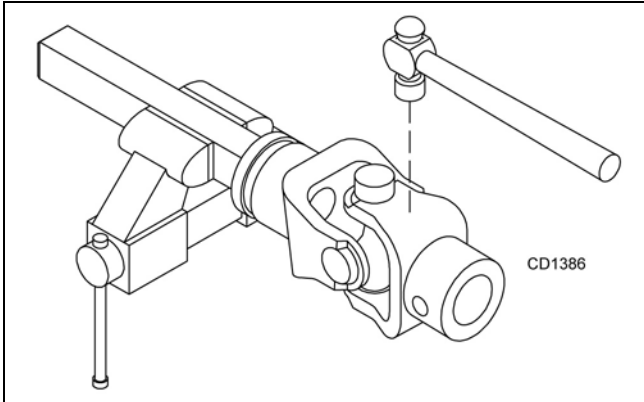

Figure 23
2. With snap rings removed, support drive in vise, hold yoke in hand and tap on yoke to drive cup up out of yoke. See Figure 23.